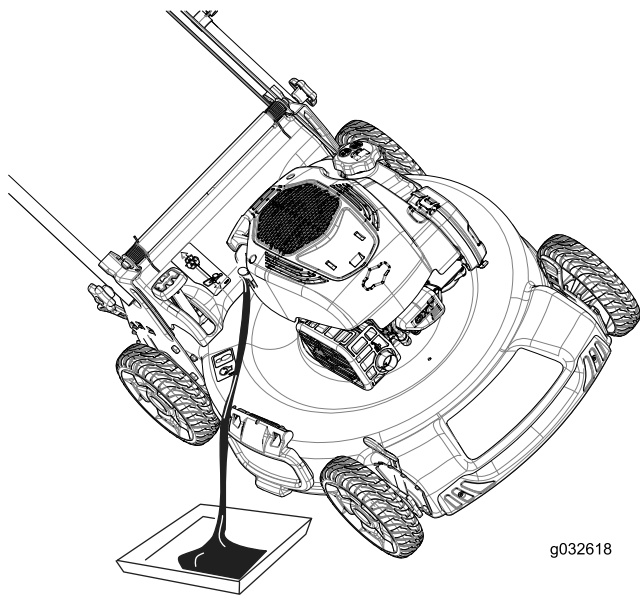

Figure 23
- 4. Tip the machine onto its side (so that the air filter is up) to drain the used oil from the oil-fill tube (Figure 23).